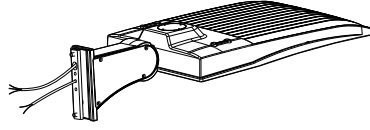

Figure 4
- Step 2: Install the bracket on the fixture, then cover the side lid and tighten it. (Figure 4)